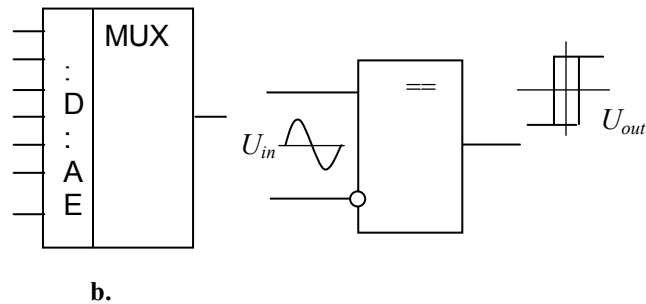

Fig. 2.45
**Comparator.** A *comparator* may be the perfect solution for comparing one voltage with another to see which is larger. Its circuit symbol is shown in Fig. 2.45. It is the fast differential dc amplifier of high gain and stability, with a logic output that switches to one state when the input reaches the upper trigger point and switches back to the other state when the input falls below the lower trigger point. the first industrial integral comparator  $\mu A710$  was developed by R.J. Widlar in USA in 1965.